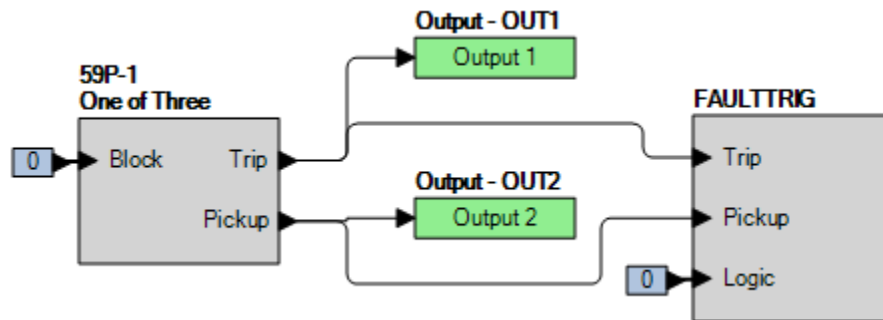

Figure 59-1. BESTlogicPi.us Settings
Step 2: Use BESTCOMSPi.us to configure the BESTlogicPi.us programmable logic shown in Figure 59-1.
Step 4: Prepare to monitor the 59P-1 function operation. Operation can be verified by monitoring OUT2 (see Figure 59-1).